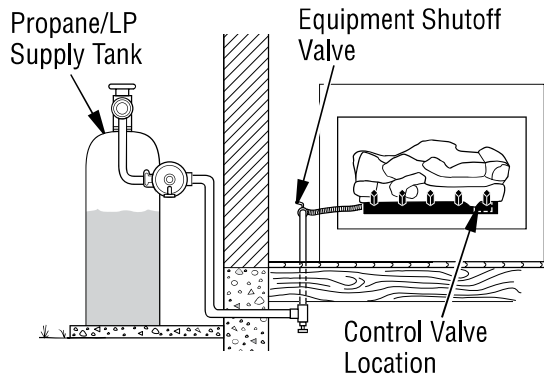
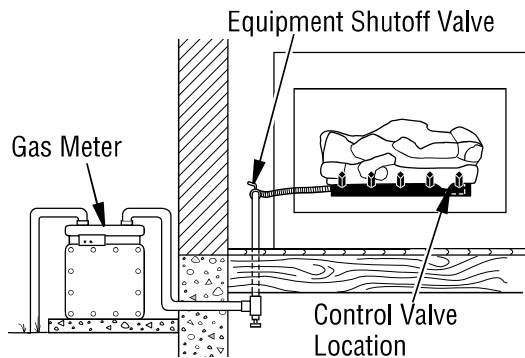

Figure 15 - Checking Gas Joints (Propane/LP Only)
Figure 16 - Checking Gas Joints (Natural Gas Only)
3. Check all joints from gas meter to equipment shutoff valve for natural gas or propane/LP supply to equipment shutoff valve for propane/LP (*see Figure 15 or Figure 16, Page 15*). Apply noncorrosive leak detection fluid to all joints. Bubbles forming show a leak.
4. Check all joints from gas meter to equipment shutoff valve for natural gas or propane/LP supply to equipment shutoff valve for propane/LP (see **Figure 15** or **Figure 16**). Apply noncorrosive leak detection fluid to all joints. Bubbles forming show a leak.